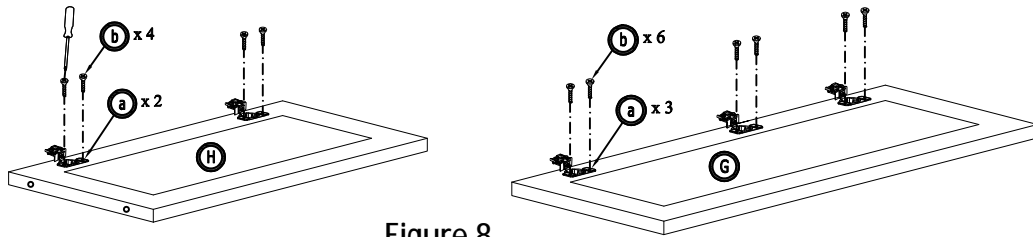

Figure 8
9. Assemble upper door with hinges to left or right of cabinet frame by 3 screw 4/5" (Figure 8)